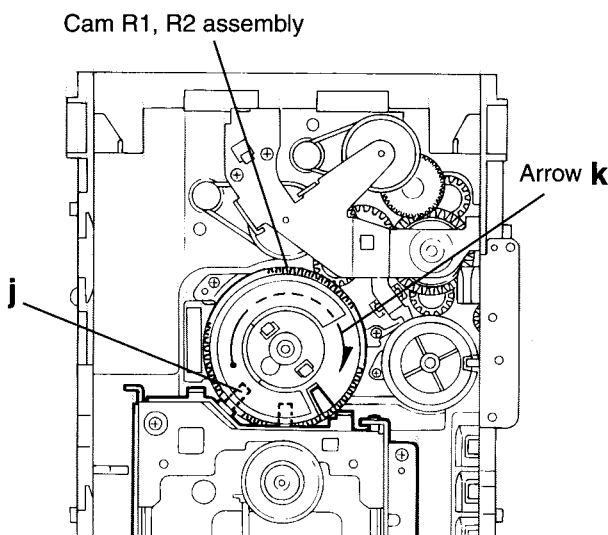

Fig.11
■ Removing the CD traverse mechanism (See Fig.11 and 12)
1. For dismounting only the CD traverse mechanism without removing the CD loading mechanism assembly, align the shaft "j" of the CD loading mechanism assembly to the position shown Fig.11 while turning the cam R1 and R2 assembly in the arrow direction "k" .